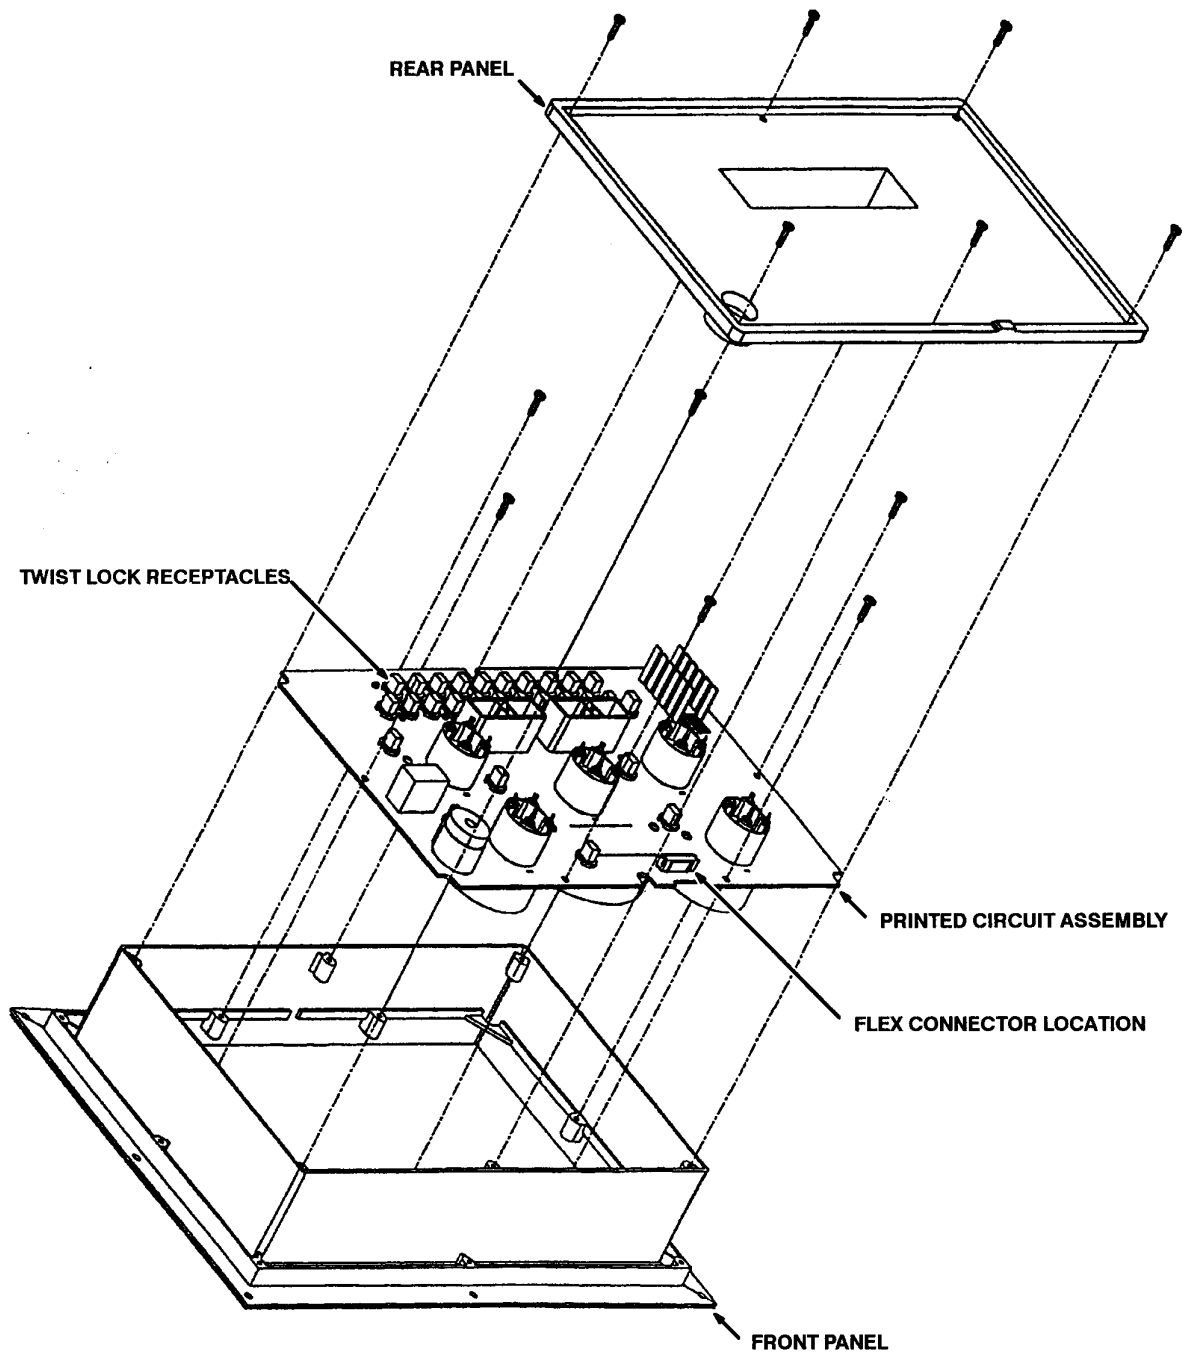

Figure 3 Front Panel, Rear Panel, Printed Circuit Assembly
- A. The instrument cluster can be broken down to the front panel, rear panel and the printed circuit assembly (Figure 3).
Refer to Figure 3.
The panel lamp bulbs are the push-in type and are mounted in a twist lock receptacle (Figure 3). The rear panel must be removed to gain access to the lamps.